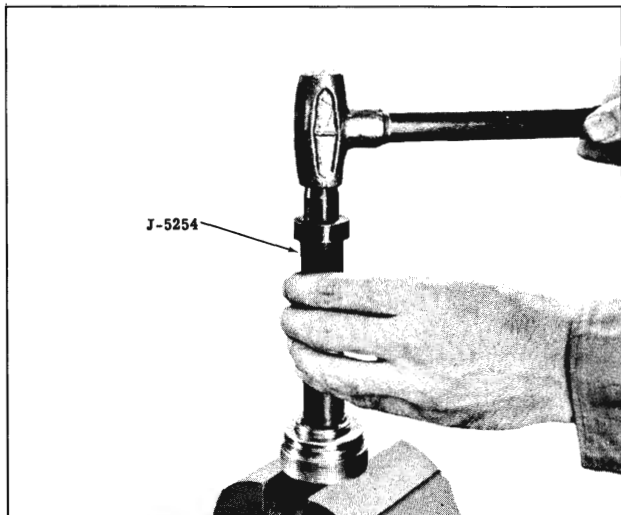

Fig. 4-48 Seal and Bearing Removal
3. If the needle bearing is to be replaced, remove the retaining ring using internal pliers, then drive the dust seal, seal and bearing from the adjuster plug with Tool J-5254. (Fig. 4-48) Discard seal and bearing.